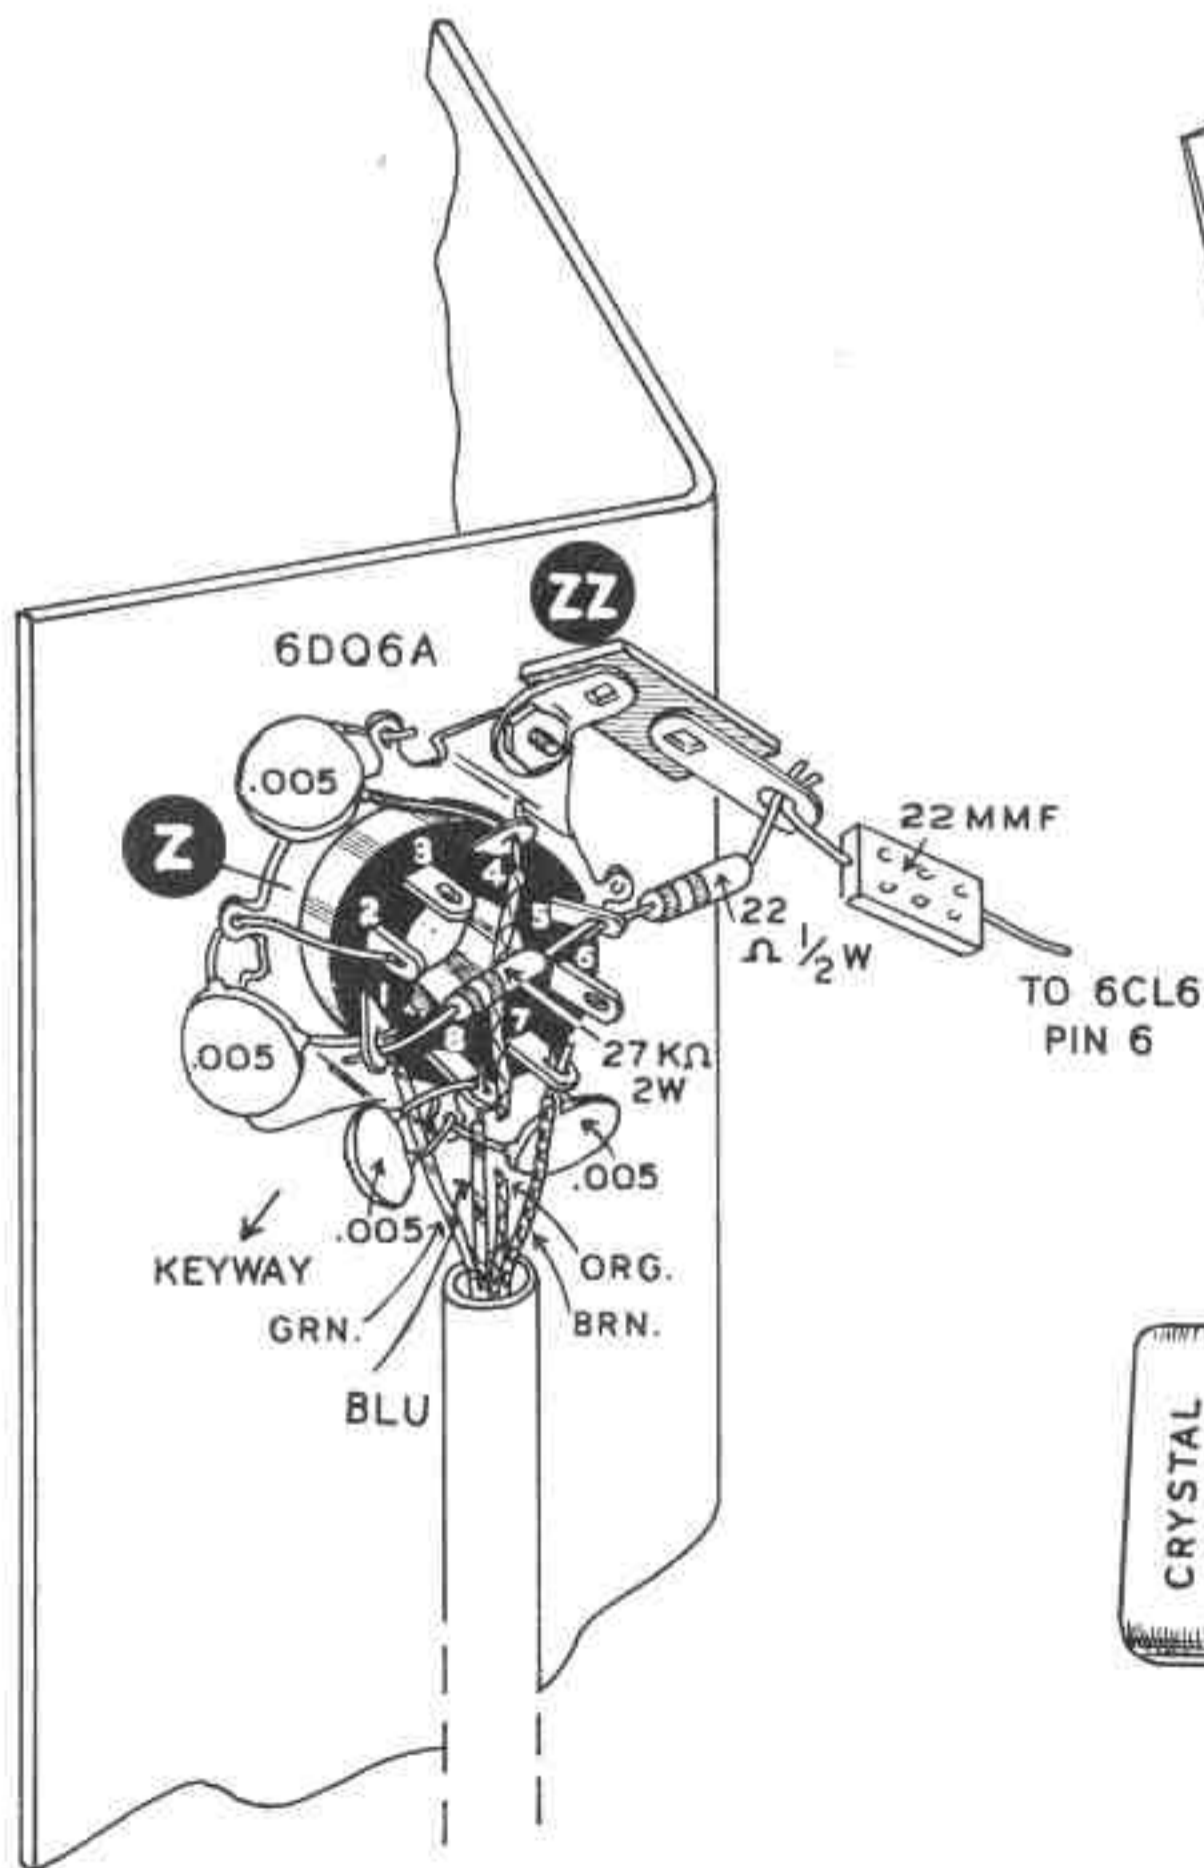

Figure 9
- ( ) Mount the octal socket for the 6DQ6A final amplifier at position Z and the single tie point strip at position ZZ. Use 6 - 32 x 3/8" screws. Orient the keyway to face downward. Hold the socket against the outside of the shield plate and at the upper socket mounting hole insert the screw through the shield, then through the tube socket, then through the foot of the tie strip ZZ, a #6 lockwasher and secure with a 6 - 32 nut. NOTE: With some tube sockets it may be necessary to clip or file a piece off the foot of the tie strip to mount it properly. See Figure 9.